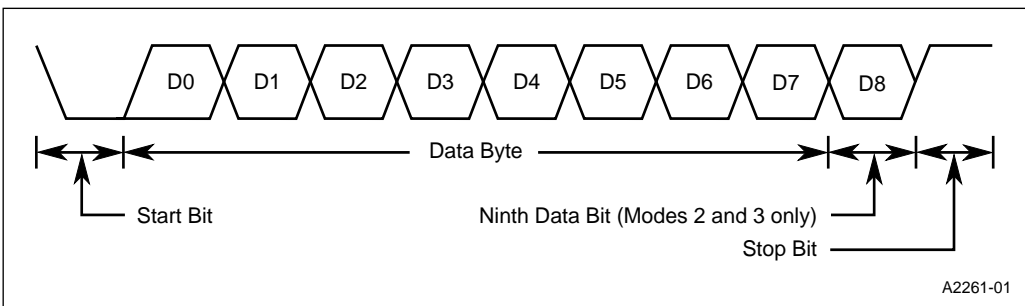

Figure 10-4. Data Frame (Modes 1, 2, and 3)
- **Mode 1.** Mode 1 is a full-duplex, asynchronous mode. The data frame (Figure 10-4) consists of 10 bits: one start bit, eight data bits, and one stop bit. Serial data is transmitted on the TXD pin and received on the RXD pin. When a message is received, the stop bit is read in the RB8 bit in the SCON register. The baud rate is generated by overflow of timer 1 or timer 2 (see section 10.6, “Baud Rates”).
- **Modes 2 and 3.** Modes 2 and 3 are full-duplex, asynchronous modes. The data frame (Figure 10-4) consists of 11 bits: one start bit, eight data bits (transmitted and received LSB first), one programmable ninth data bit, and one stop bit. Serial data is transmitted on the TXD pin and received on the RXD pin. On receive, the ninth bit is read from the RB8 bit in the SCON register. On transmit, the ninth data bit is written to the TB8 bit in the SCON register. Alternatively, you can use the ninth bit as a command/data flag.